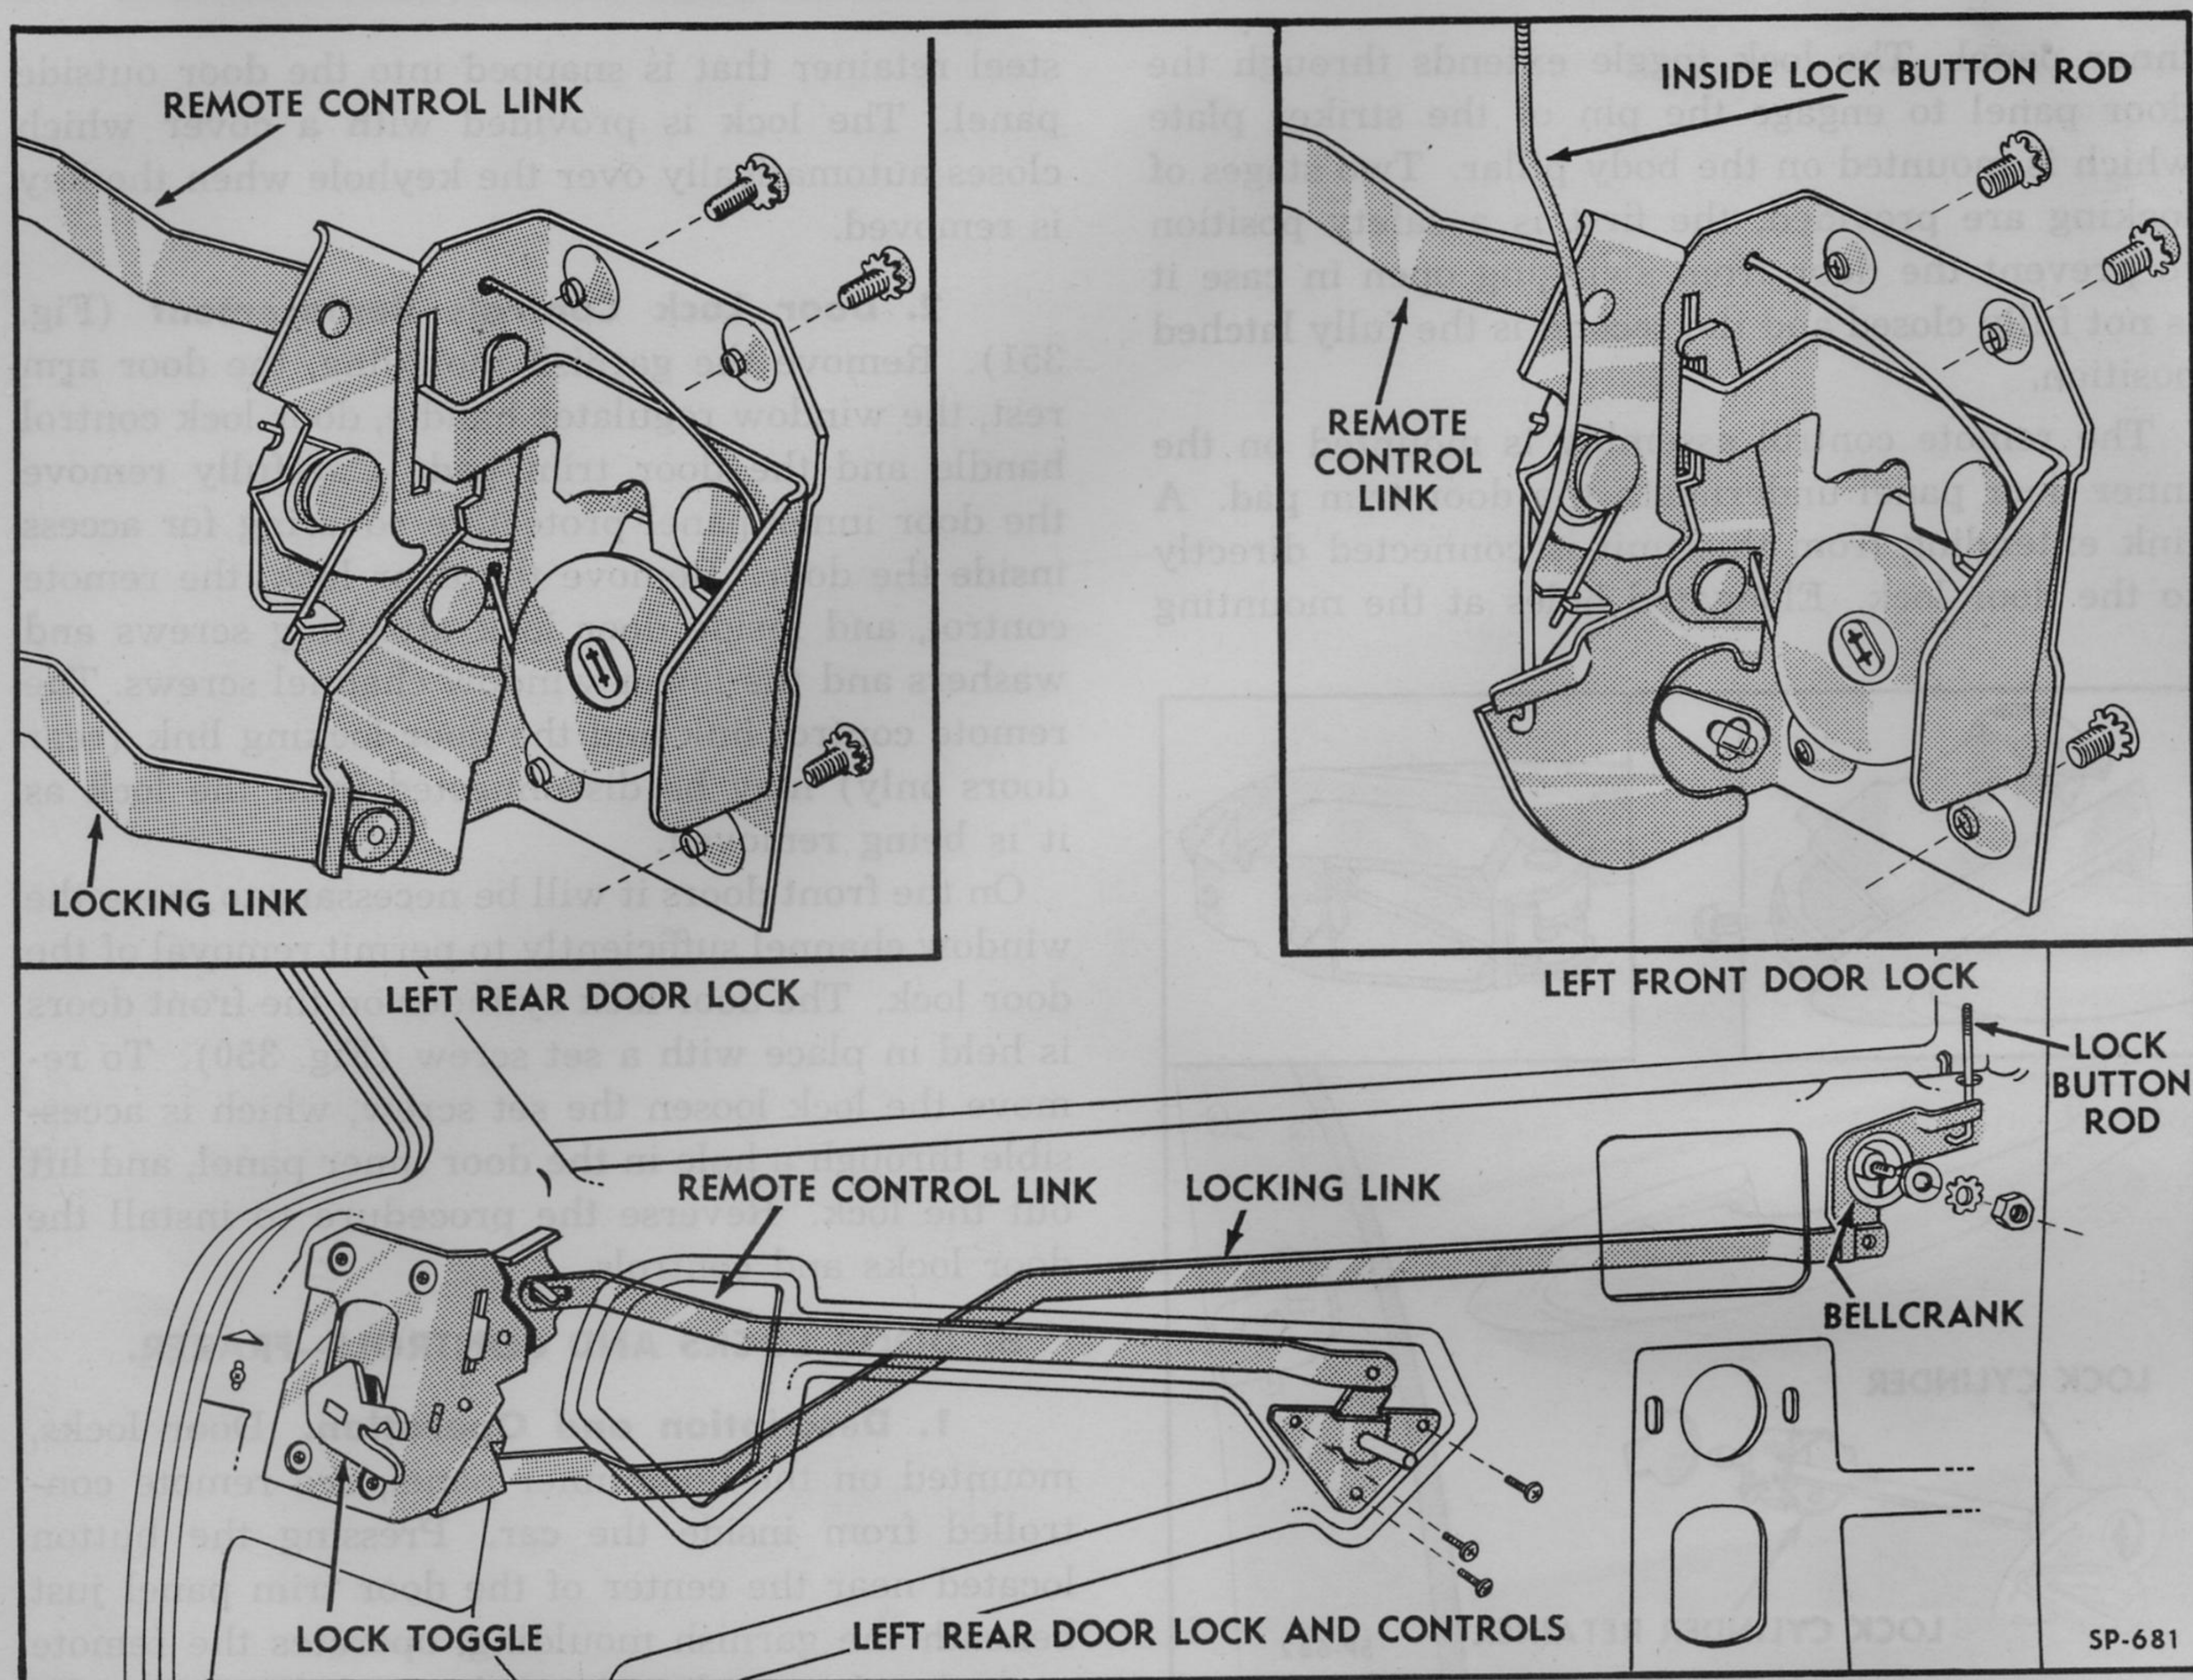

Fig. 351—Door Lock Operating Mechanism—Kaiser
The door locks are a heavy steel spring loaded trigger type (Fig. 351) and are mounted on the door
**2. Door Lock Controls Replacement** (Fig. 351). Remove the garnish moulding, the door arm rest, the window regulator handle, door lock control handle and the door trim pad. Carefully remove the door inner panel protective covering for access inside the door. Remove the door lock, the remote control, and inside door lock attaching screws and washers and the lower window channel screws. The remote control link and the door locking link (rear doors only) may be disconnected from the lock as it is being removed.